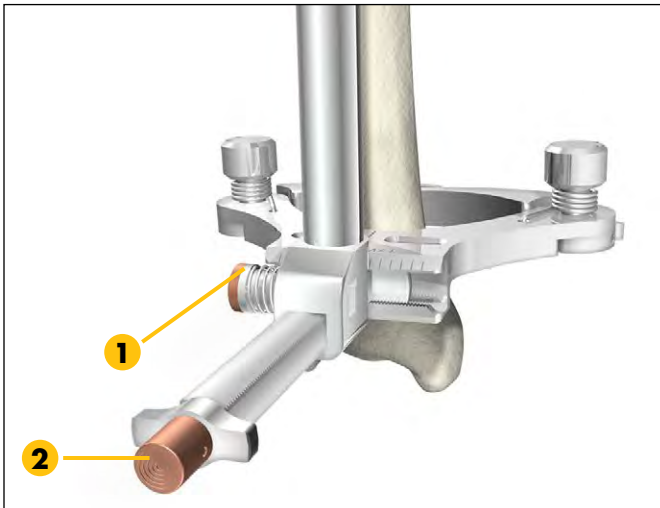

Figure 8
Medial/lateral offset can be adjusted by pushing the bronze button (2) and sliding the assembly medially until the shaft intersects the center of the tibia. **(Figure 8)**
Tibial slope can be adjusted by pressing the bronze button (1) and moving the Alignment Assembly anteriorly or posteriorly. **(Figure 8)**